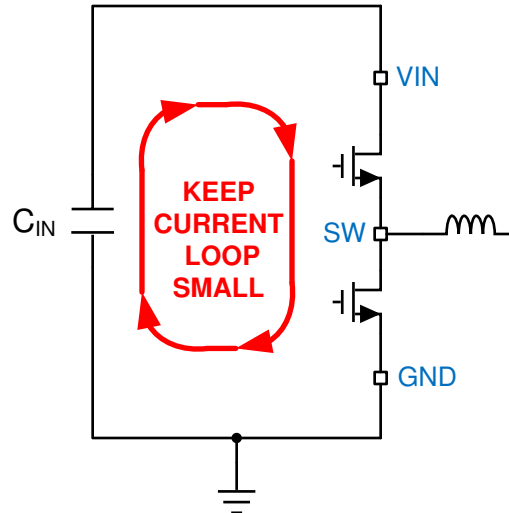
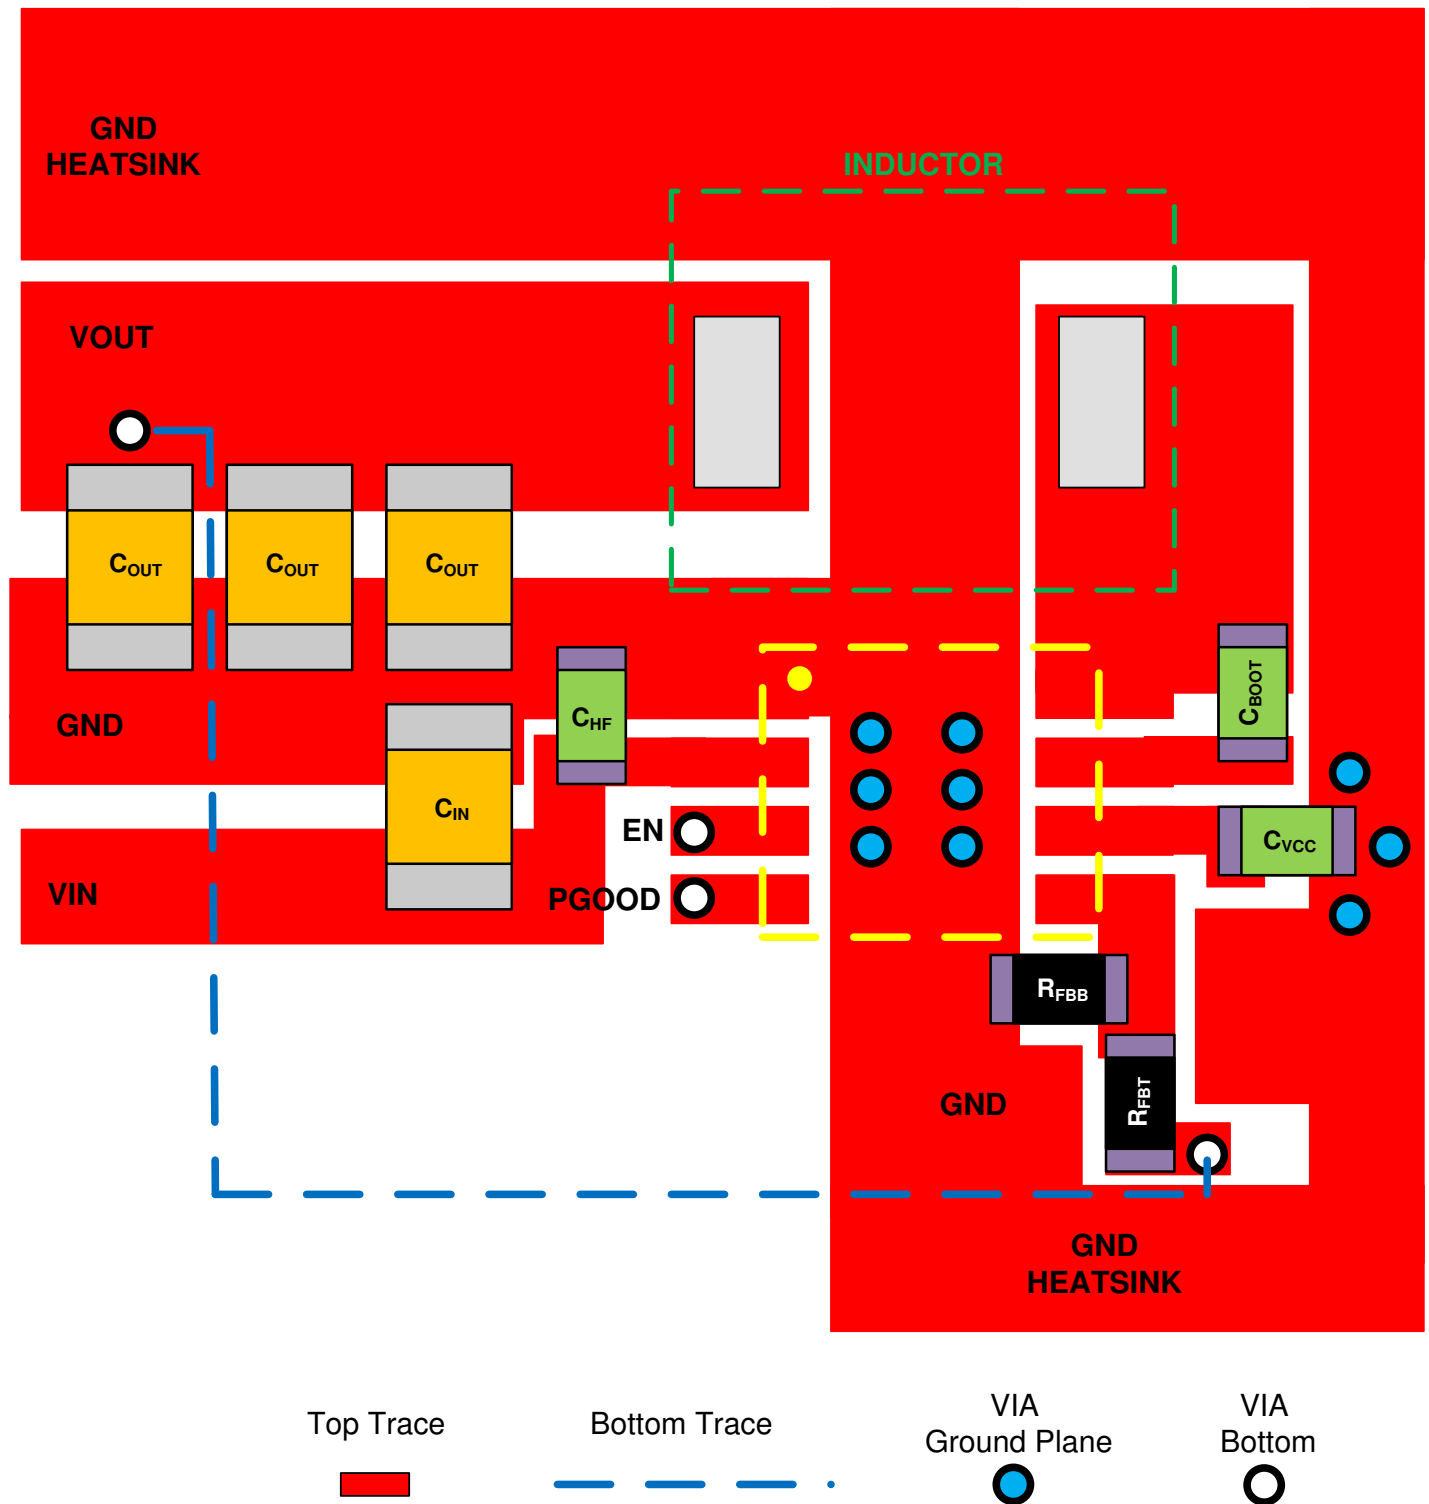
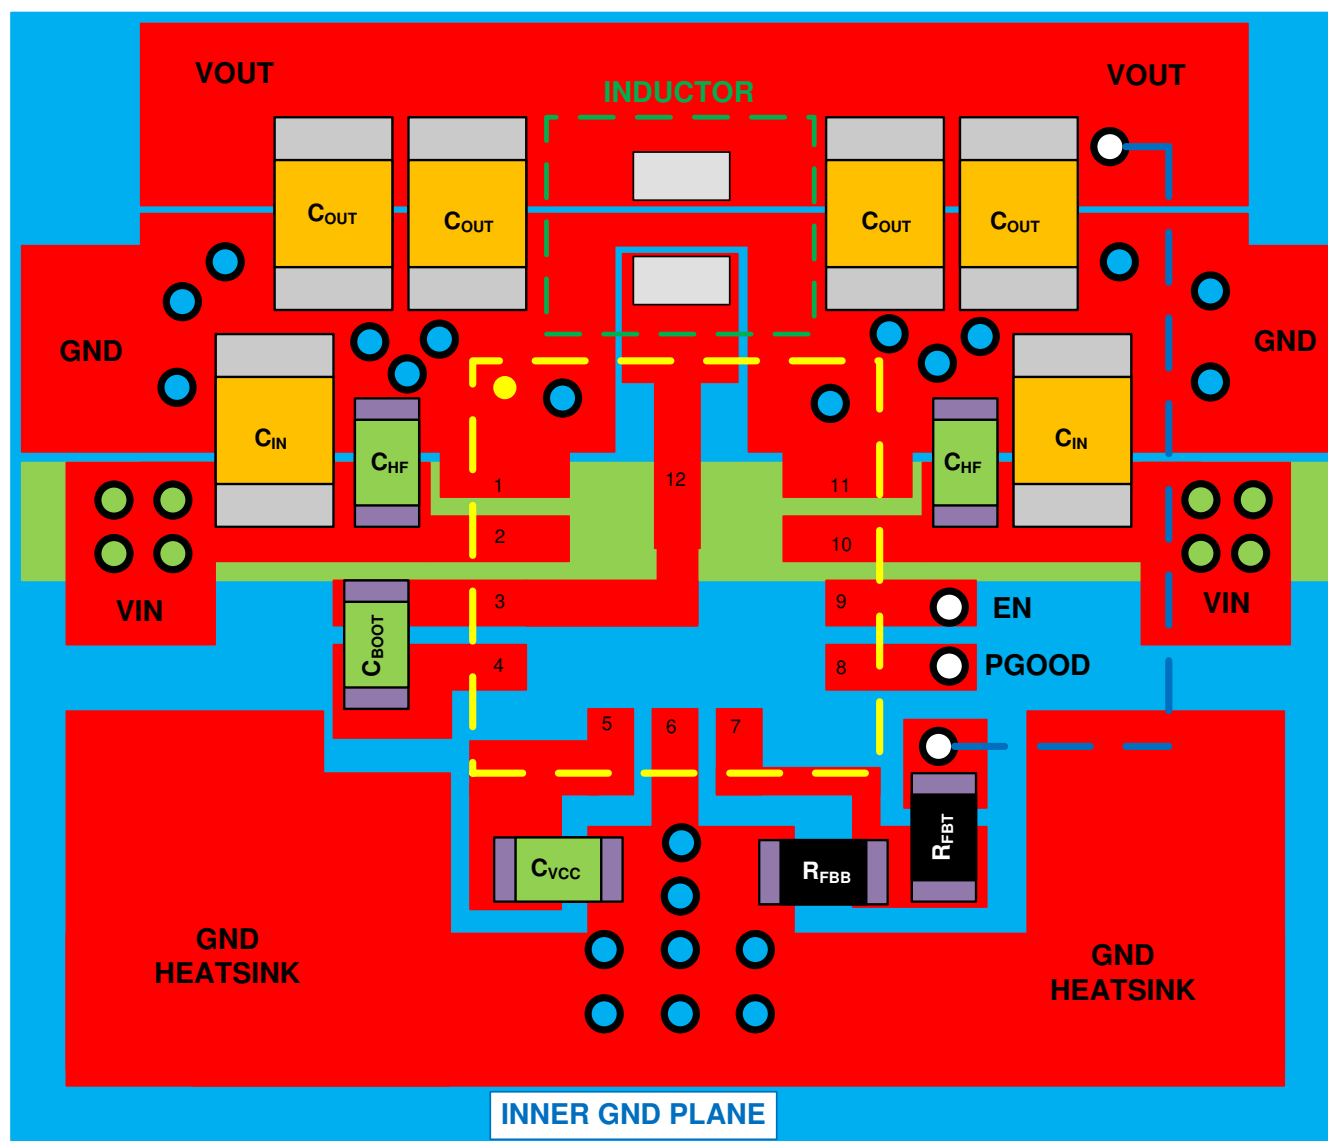

Figure 10-1. Current Loops with Fast Edges
Figure 10-2. Example Layout for HSOIC (DDA) Package
Figure 10-3. Example Layout for VQFN Package
The PCB layout of any DC/DC converter is critical to the optimal performance of the design. Bad PCB layout can disrupt the operation of an otherwise good schematic design. Even if the converter regulates correctly, bad PCB layout can mean the difference between a robust design and one that cannot be mass produced. Furthermore, the EMI performance of the regulator is dependent on the PCB layout, to a great extent. In a buck converter, the most critical PCB feature is the loop formed by the input capacitor or input capacitors, and power ground, as shown in Figure 10-1. This loop carries large transient currents that can cause large transient voltages when reacting with the trace inductance. These unwanted transient voltages will disrupt the proper operation of the converter. Because of this, the traces in this loop must be wide and short, and the loop area as small as possible to reduce the parasitic inductance. Figure 10-2 and Figure 10-3 show recommended layouts for the critical components of the LMR33620.
1. **Place the input capacitor or capacitors as close as possible to the VIN and GND terminals.** VIN and GND pins are adjacent, simplifying the input capacitor placement. With the VQFN package there are two VIN/PGND pairs on either side of the package. This provides for a symmetrical layout and helps minimize switching noise and EMI generation. A wide VIN plane must be used on a lower layer to connect both of the VIN pairs together to the input supply; see Figure 10-3.